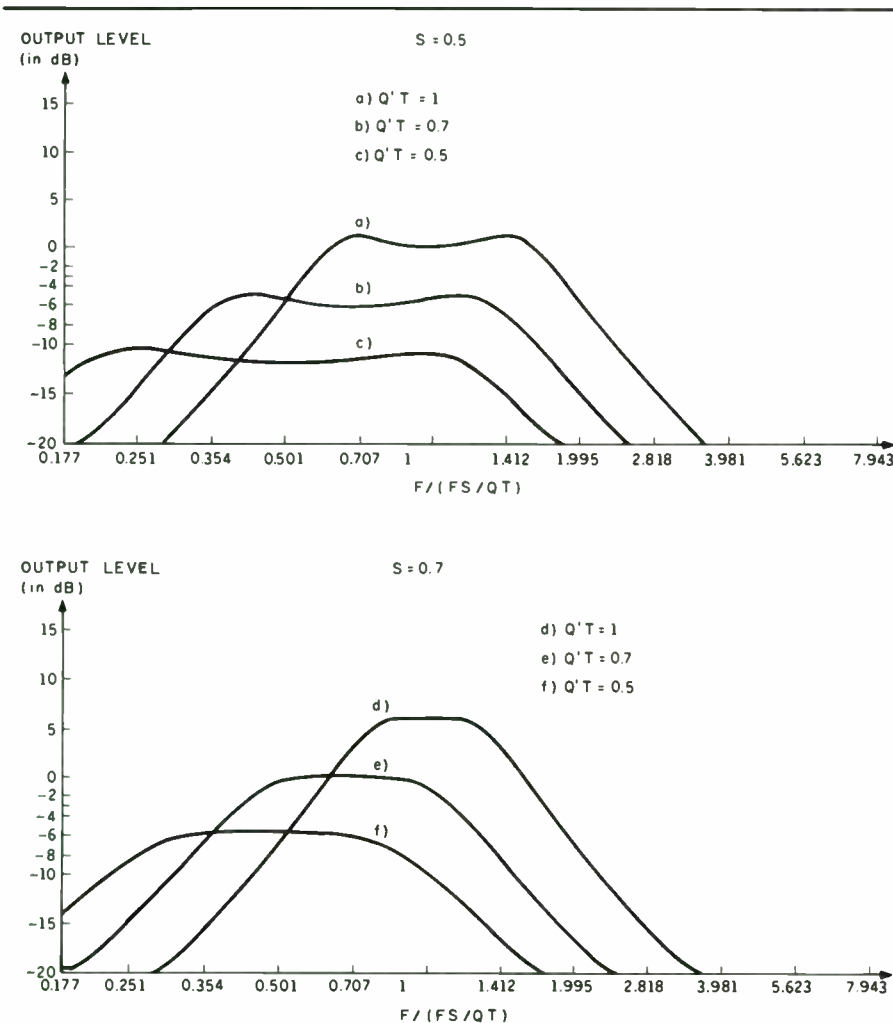

FIGURE 4: Frequency response according to  $S$  and  $Q'_T$  values.
**REMARKS.** We have just studied all the parameters. We can now see their interaction. Philippe Augris and Dominique Santens have drawn networks of frequency response curves (Fig. 4) according to various values of  $S$  and  $Q'_T$ . To keep the generality of the results, these curves give the value of the output versus the normalized frequency,  $F/(F_s/Q_T)$ . When you examine these networks of curves, you can see that: